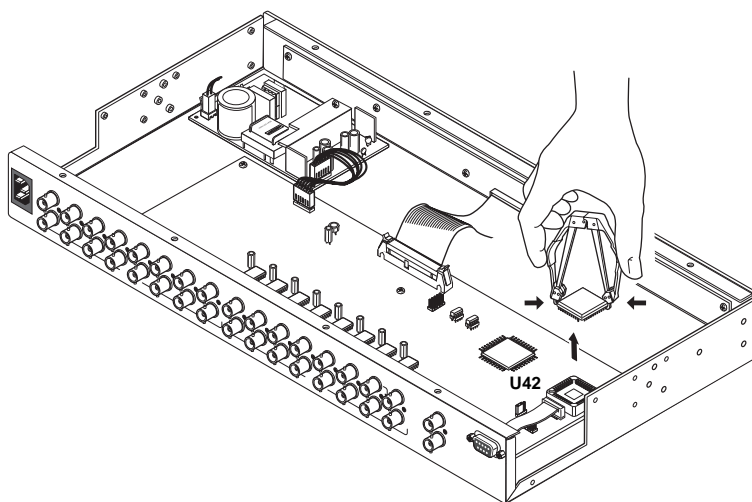

Figure 6-3 — Replacing U42
2. Locate IC U42 (figure 6-3).